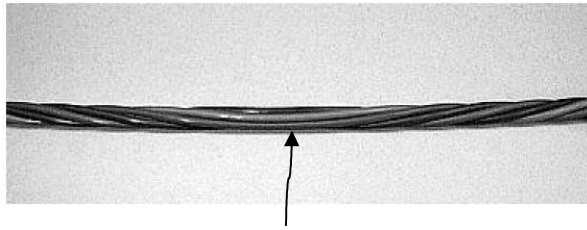

Figure 22 - Reversal Point
5.8 Locate a buffer tube reversal point (**where the buffer tubes change direction**) by removing the outer cable sheath in 300 mm sections. The reversal point is where the twist of the buffer tubes changes direction (Figure 22) Also make sure to identify the outer core buffer tubes as mentioned in 'Tube Identification' at the beginning of the guide. If reversal point hasn't been located fully within the first sheath removal, carefully remove (to the left and right) 300mm sections of the outer cable sheath until the reversal point is located making sure not to puncture existing exposed buffer tubes.